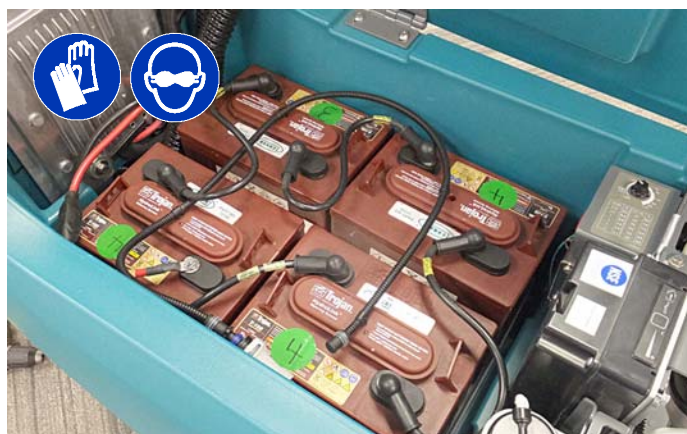

Fig. 36
2. Carefully re-install batteries and connect battery cables (Figure 36).